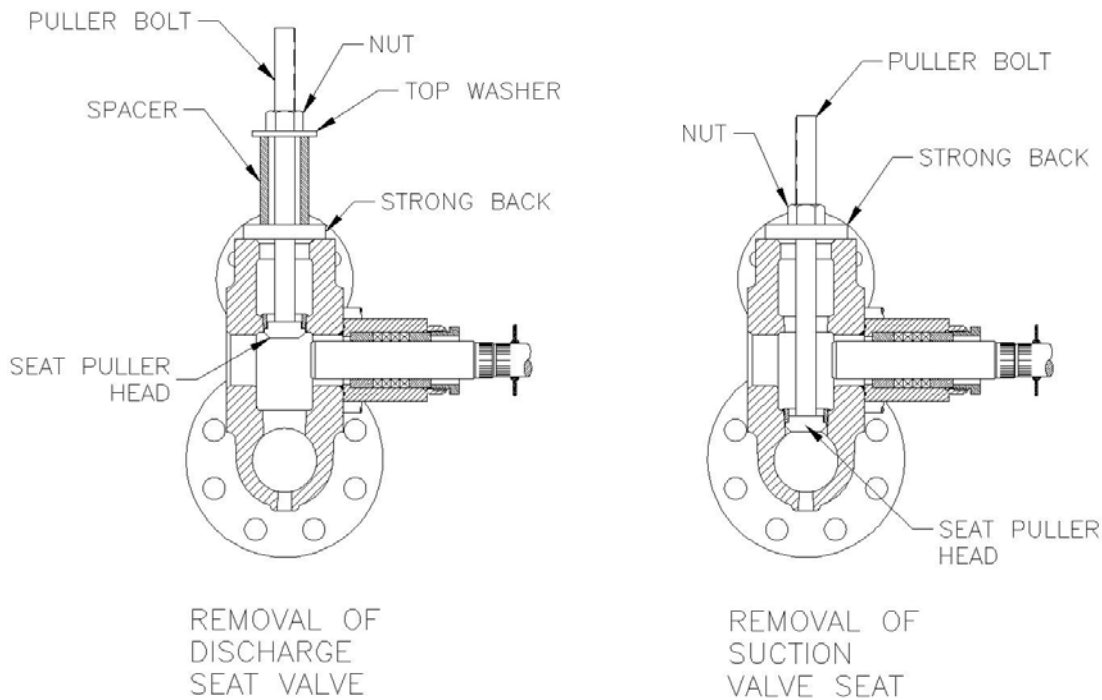

Figure 18
- Use the special valve seat puller and remove the valve seat. See Figure 18.